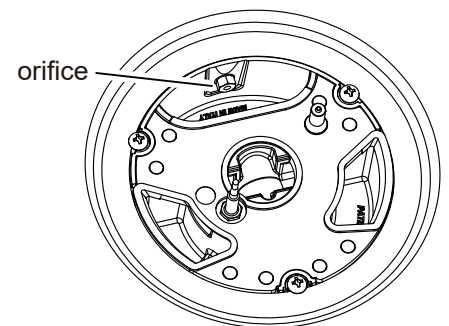

Fig 4
- Tighten until snug. **Do not overtighten.** (See Fig. 4)